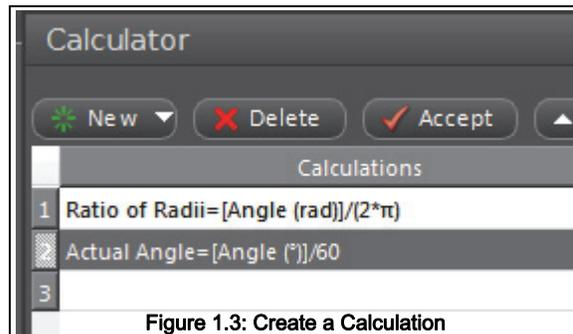

Figure 1.3: Create a Calculation
- In the data collection program, use the Calculator to create a calculation of Actual Angle based on the Angle measurement made by the Rotary Motion Sensor and the ratio of the radius of the Spectrophotometer's Degree Plate to the radius of the small post on the Pinion (Fig. 1.3). (Refer to the Set Up section for more information.)